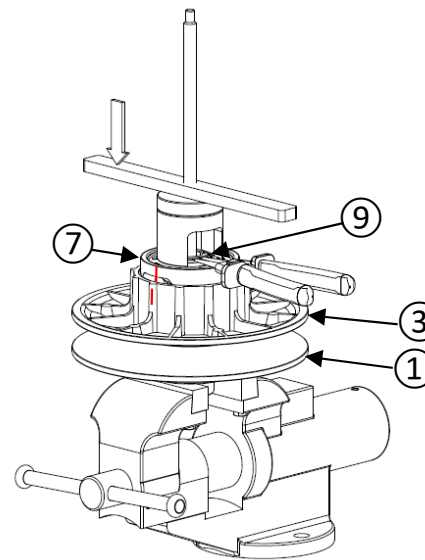

Figure 31
- Press down the cam ⑦ onto the fixed sheave ① shaft with the disassembly tool. Position the key ⑧ into the fixed sheave ① shaft groove (figure 31 and 32).
- Put the retaining ring ⑨ on the cam ⑦.
- Make sure that the fixed sheave ① is blocked in rotation, turn the sliding sheave ③ counter clockwise or clockwise to position the cam shoe ④ on the proper side of the cam sliding surface as it was before disassembly.
- Screw the disassembly tool bar until the cam ⑦ is low enough to install the external retaining ring ⑨.